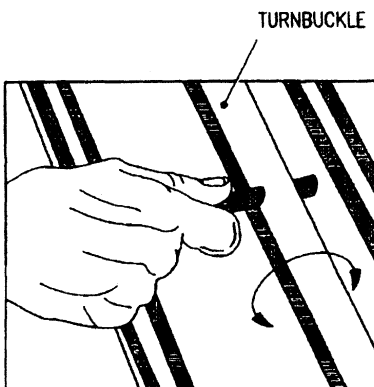

Fig 34 Adjusting turnbuckle
66.3 Adjust the turnbuckle to clamp the legs securely in the holes (Fig 34).